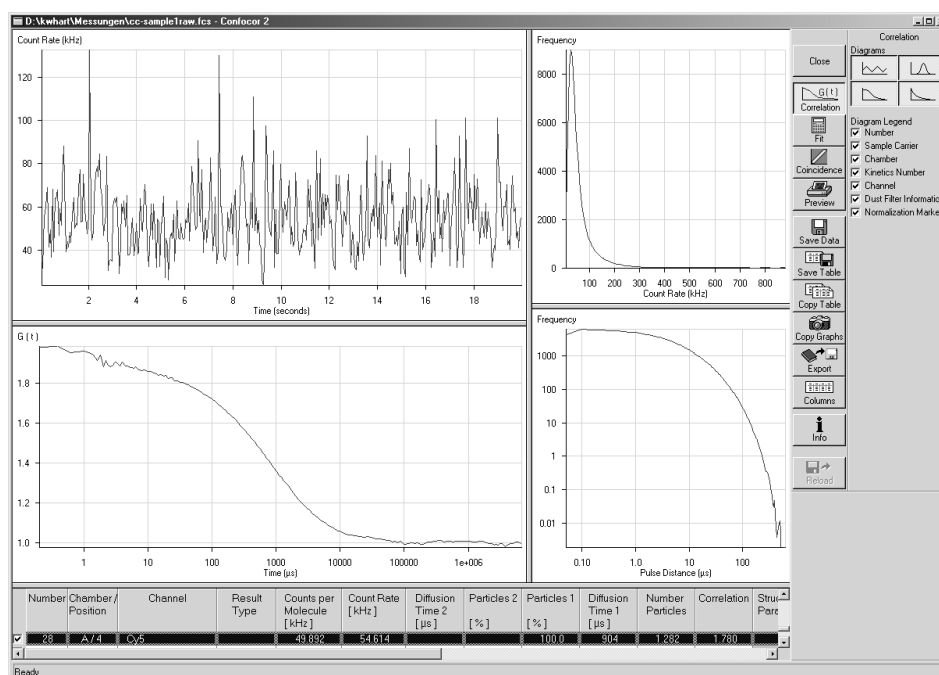

Fig. 4-34 Data Evaluation window
- When you click **Start** either from the **Method Measurement ...** window, the **Data Evaluation** window will appear (Fig. 4-34).
If you click on the **Correlation** button (Fig. 4-34), the **Diagrams** subordinate at the very right-hand side of the window will appear. By clicking on the appropriate button the diagram can be toggled between **ON** and **OFF**.